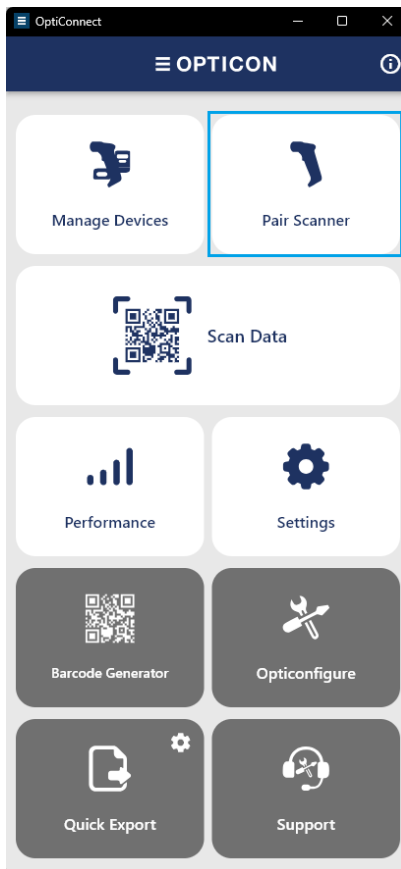

Figure 5-1: The *Pair Scanner* button in the main menu.
- Go to the main menu and press the *Pair Scanner* button (see Figure 5-1).